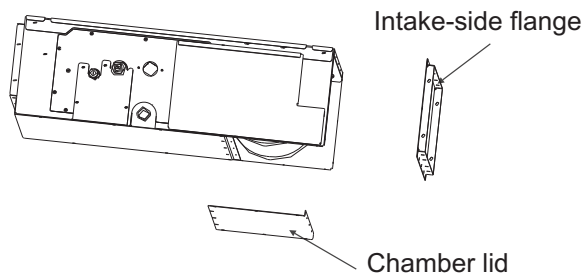
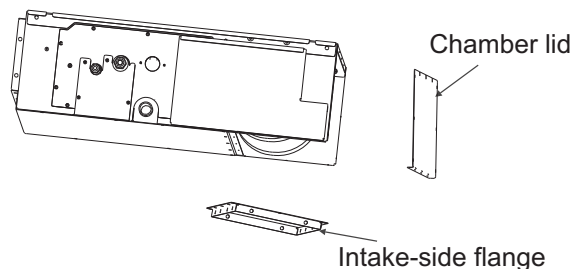

Fig 3.2.3
Fig 3.2.4
- (1) Remove the intake-side flange. Remove the chamber lid.
- (2) Reattach the removed chamber lid in the orientation shown in FIG, reattach the removed the intake-side flange in the orientation shown in Fig. 3.2.3, refer to Fig.3.2.4 for the direction of the intake-side flange.